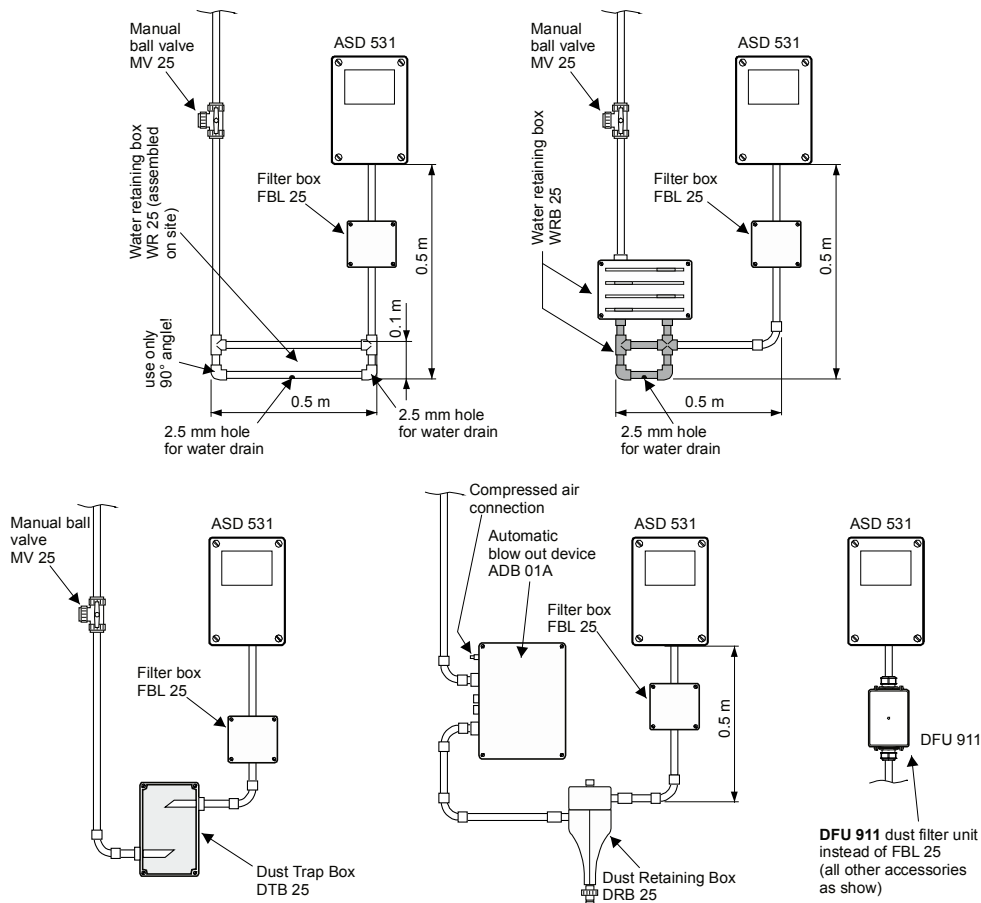

Fig. 30 Mounting accessory parts
- The mounting positions for the water retaining box, dirt trap box and dust retaining box must be observed as indicated in Fig. 30.